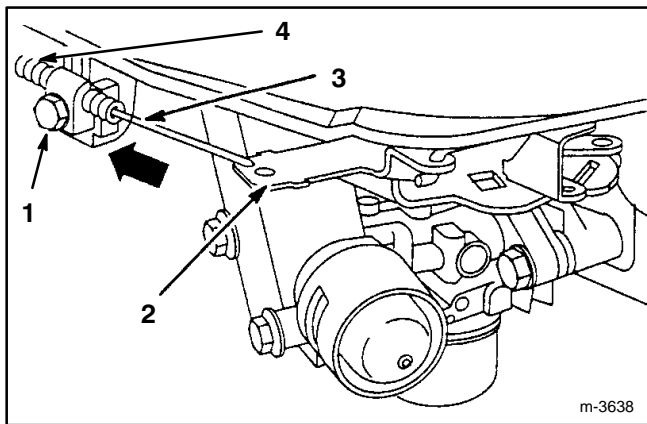

Figure 23
2. Loosen cable clamp screw until throttle cable slides (Fig. 23).
3. Move governor control lever, throttle cable and casing in direction of arrow as far as possible (Fig. 23).